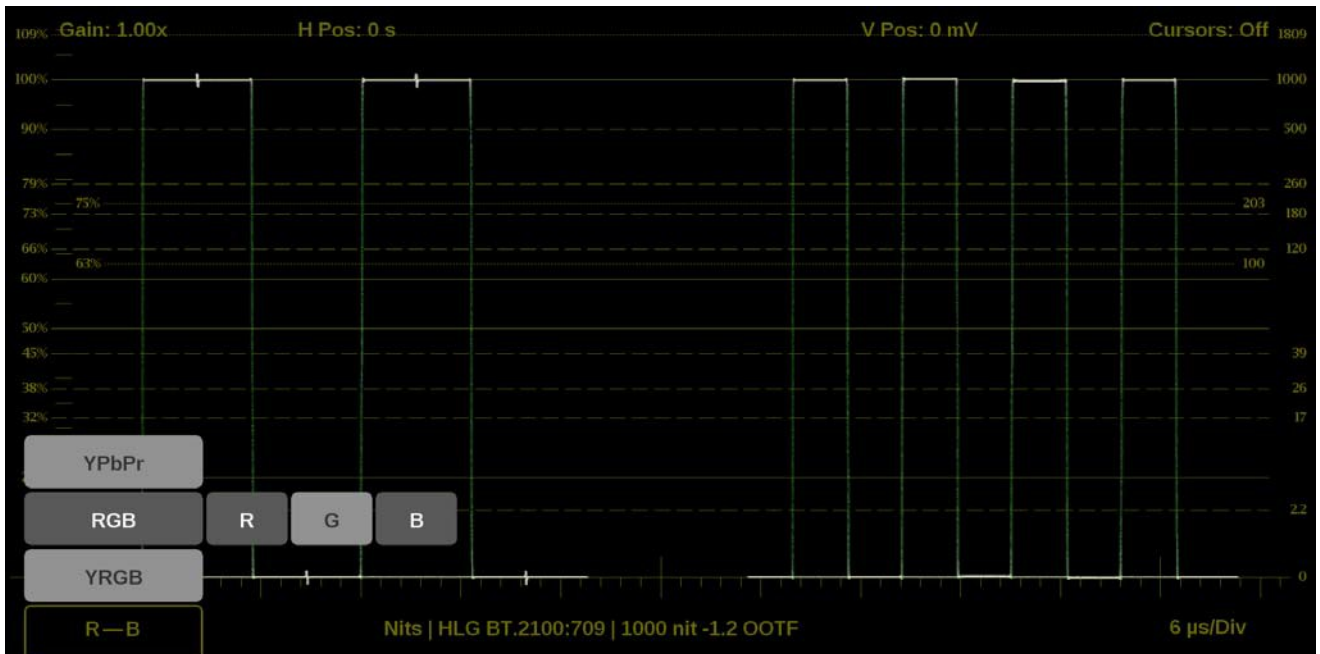

Figure 96: Waveform on-screen tools – Display Mode
1. Select the button in the bottom left corner of the application to expand the available display options. (See Figure 96.)